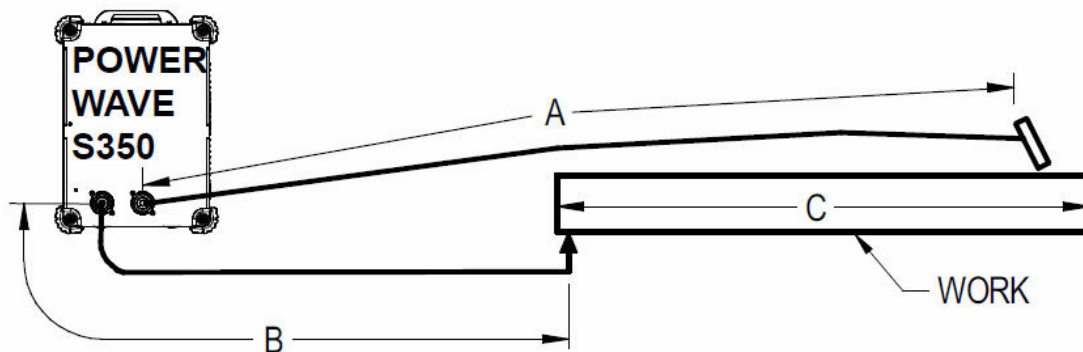

Figure 4 :
Excessive cable inductance will cause the welding performance to degrade. There are several factors that contribute to the overall inductance of the cabling system including cable size, and loop area. The loop area is defined by the separation distance between the electrode and work cables, and the overall welding loop length. The welding loop length is defined as the total of length of the electrode cable (A) + work cable (B) + work path (C) (see Figure 4 : on page A-19).